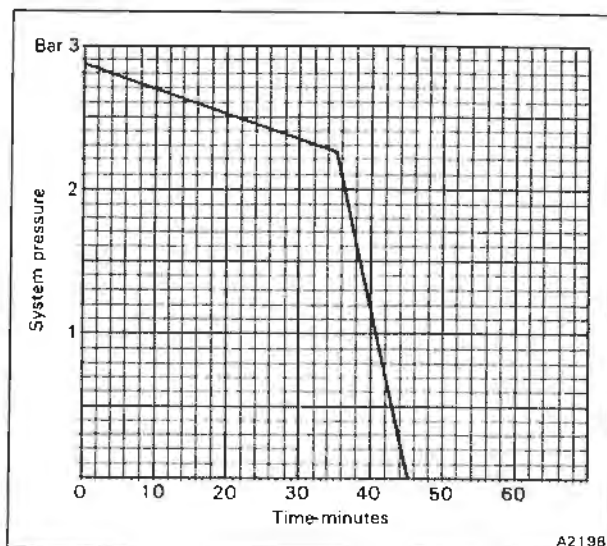

Fig. B3-30 Fuel system 'leak down'
4. Note the time it takes for the pressure to fall to zero and compare this with the graph (see fig. B3-30).